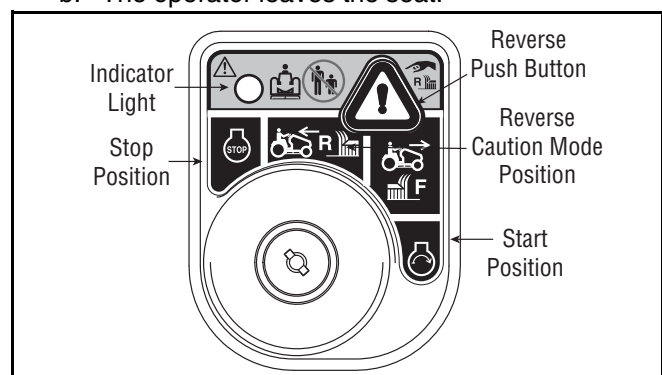

Figure 10
2. Turn the key from the **NORMAL MOWING** (Green) position to the **REVERSE CAUTION MODE** (White) position of the key switch module. See Figure 10.
3. Press the **REVERSE PUSH BUTTON** (Orange, Triangular Button) at the top, right corner of the key switch module. The red indicator light at the top, left corner of the key switch module will be **ON** while activated. See Figure 10.